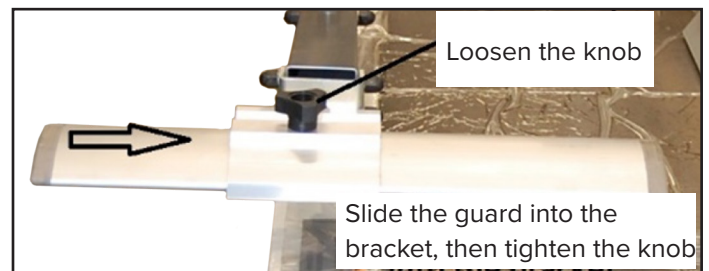

Figure 9a: The cutterhead guard Installation.
1. Insert the 16-7/8 inches long x 4 inches wide Cutterhead Guard through the guard assembly Sleeve. The guard can be slid back and forth to cover the cutterhead and can be secured in position using the sleeve's top Handle/Knob, as depicted in Figure 9a